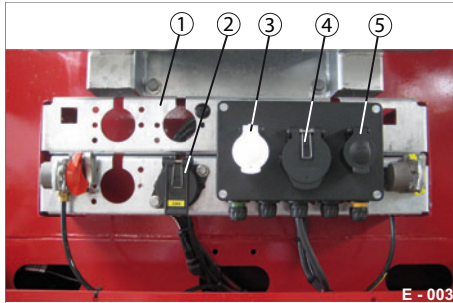

Fig. 1 Flatbed semi-trailer operating point
- Open the socket (Fig. 1/4) and connect the plug (15-pin) from the towing vehicle. Alternatively, you can insert the two 7-pin plugs into the sockets (Fig. 1/3 & Fig. 1/5).
EBS/ABS plug must be connected from the towing vehicle into the socket (Fig. 1/2) of the trailer before departing.